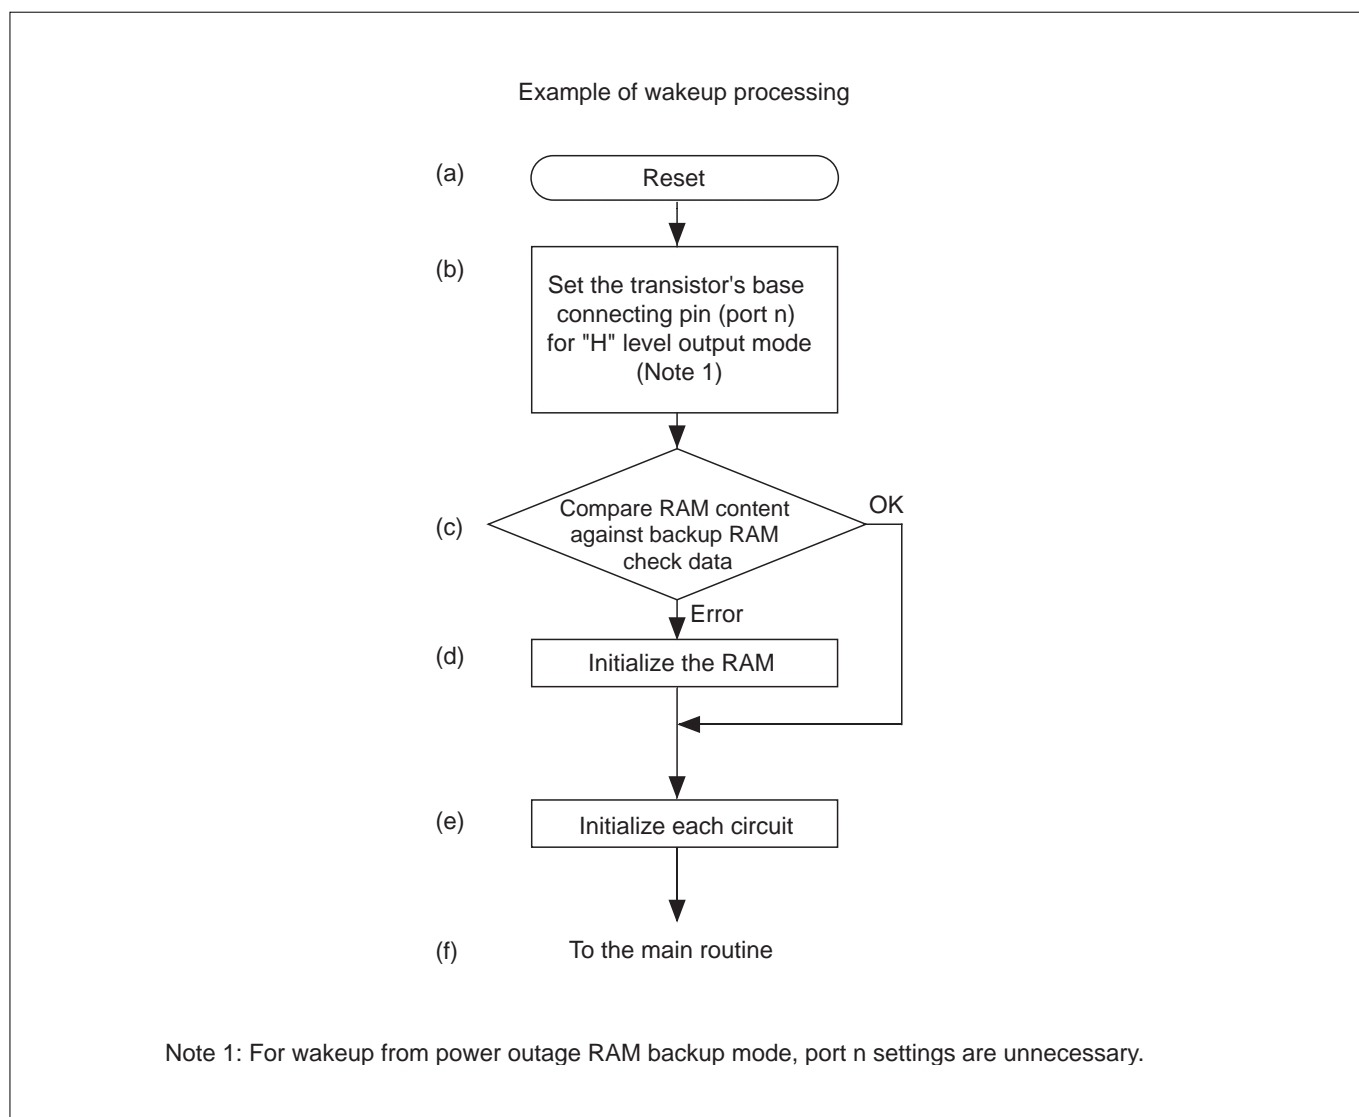

Figure 19.4.1 Wakeup Processing
The processing to place the M32R/ECU out of RAM backup mode and return it to normal operation mode is referred to as “wakeup” processing. Figure 19.4.1 shows an example of wakeup processing.
- (1) Reset the microcomputer ((a) in Figure 19.4.1).
- (2) Set port n for output mode and output "H" from the port ((b) in Figure 19.4.1) (Note 1)
- (3) Compare the RAM content against the RAM check data created before entering RAM backup mode ((c) in Figure 19.4.1).
- (4) If the comparison in (3) did not match, initialize the RAM ((d) in Figure 19.4.1).
- (5) Initialize each internal circuit ((e) in Figure 19.4.1) before returning to the main routine ((f) in Figure 19.4.1).